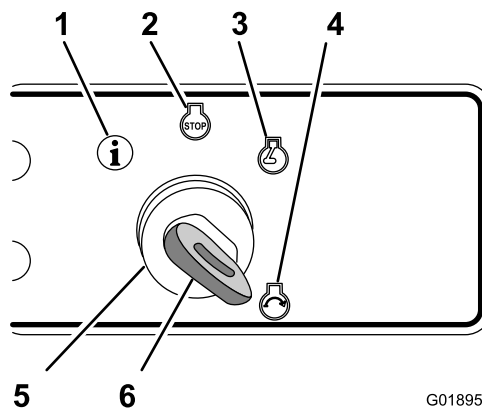

Figure 8
- Start the engine by rotating the key switch to the engine-start position, and then releasing the key when engine starts; the key will move automatically to the engine-run position (Figure 8).
- Stop the engine by rotating the key switch to the engine-Off position (Figure 8).
- Display the hour meter, the last fault message, and the software version by rotating the key switch to the Information position (Figure 8).